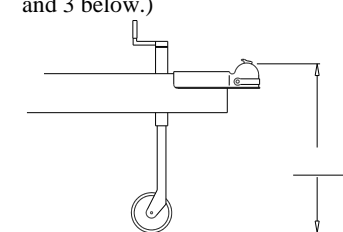

Fig. 1
2. Level the trailer and measure and record the distance from the ground to the top of the coupler. (Fig.1).
6. Rivet ⑤ and 8 spacer washers ⑦ are supplied in order to gain correct downward angle of spring bars. Insert rivet ⑤, and depending on angle or slope of bars that must be gained, use either 8 or the least amount of washers ⑦ necessary in order to establish correct angle. (See Fig. 1, 2, and 3 below.)